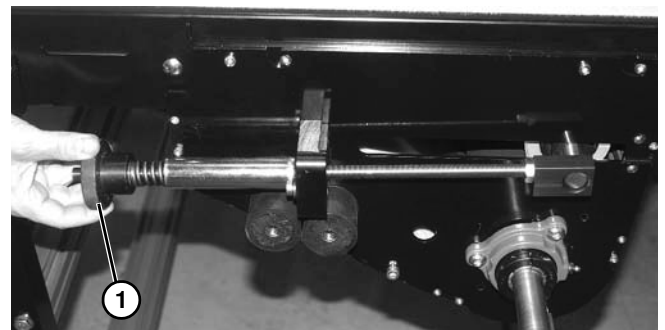

Figure 167
2. Loosen tension on drive belt by rotating tensioning knob (**Figure 167, item 1**) counterclockwise on both sides of conveyor.